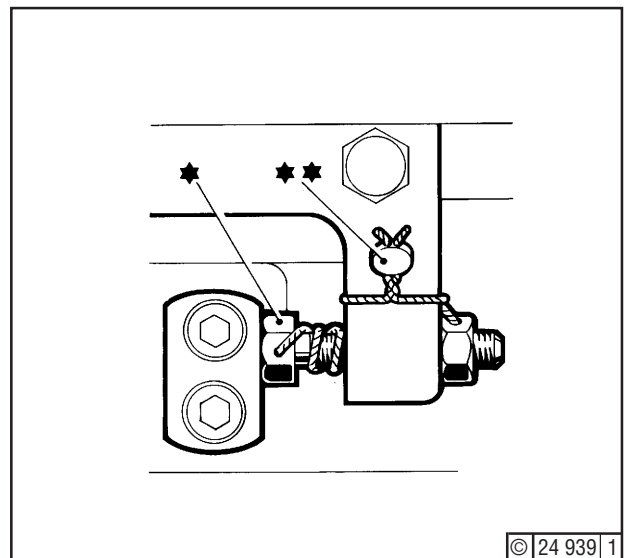

Fig. 19
13. Check that linkage abuts at stop screw (*) - Fig. 19 - when pushed to maximum load (point A13).